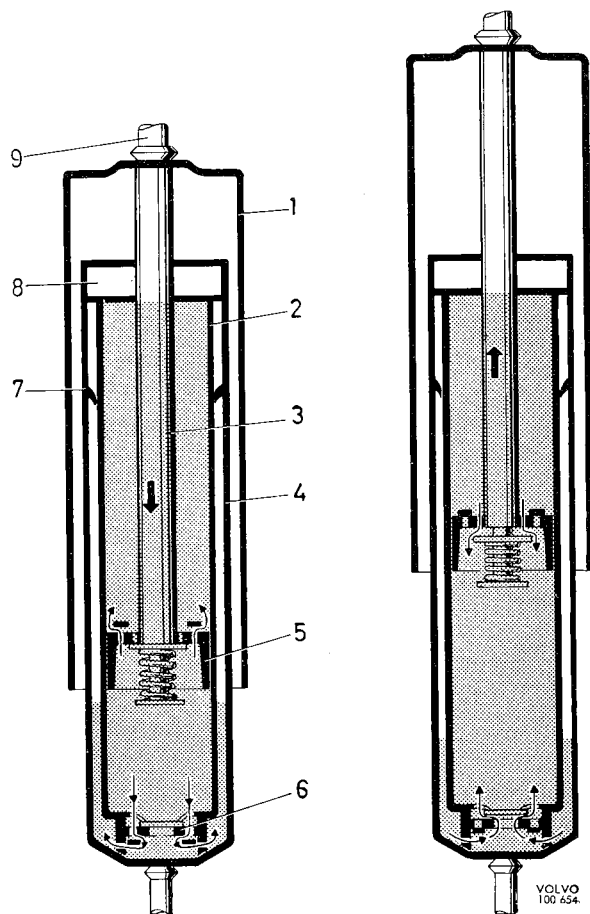

Fig. 7-8. Shock absorber, function
3. Check the rubber bushing and lower washer (1, and 7, Fig. 7-8) of the upper shock absorber attachment. Place the shock absorber in position and tighten its attachment.
The design of the shock absorbers is shown in Fig. 7-8. The outer cylinder (1) serves only as a protection against dust and dirt. The other two cylinders (2 and 4) are concentrically arranged, one inside the other. The inner cylinder (2) is the actual working cylinder, the lower end of which has a valve (6). Inside the inner cylinder there is a piston (5) with drilled holes. Oil flowing through these holes is controlled by valves.